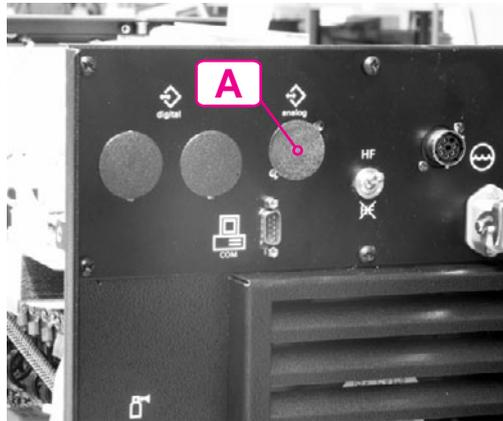

Fig. 2 Blind plug
- Remove blind plug (Fig. 2, A) from the rear panel of the casing